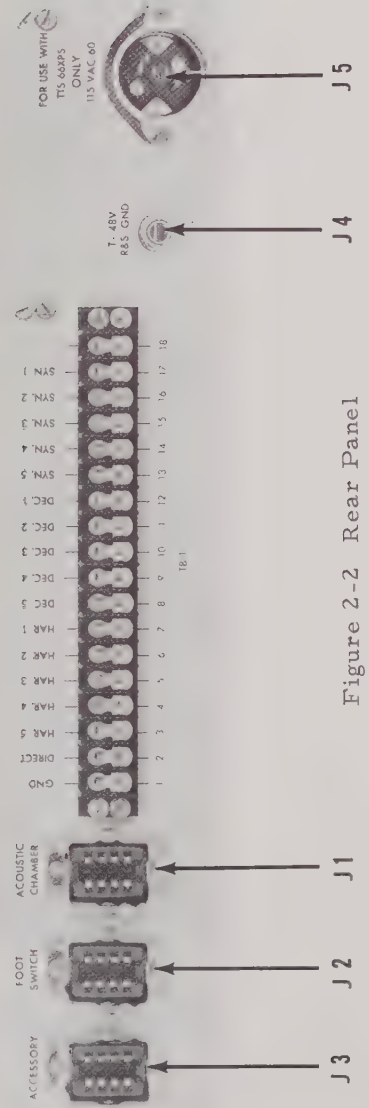

Figure 2-2 Rear Panel
2.2 PRELIMINARY PROCEDURE. Connect -48V dc to the jack on the rear panel (Fig. 2-2). If the test set contains the optional TTS 66XPS Power Supply, connect the power cord furnished between the connector and a source of 110-120V ac, 60 Hz. On the TTS 66-C Control Unit, set the POWER switch to ON.